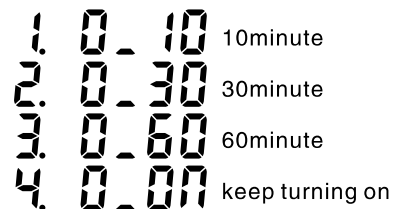

Figure 2–3–2 DC24V time setup
- (1) Please select **7024V** (output 24V) in the main menu.
- (2) As figure 2–3–2 Screen, screen shows the time options of DC24V output.
- (3) When the selected time is up, the DC24V output is closed automatically.